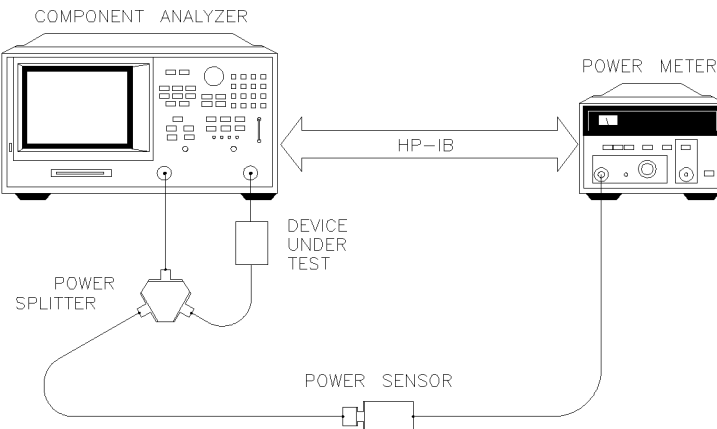

Figure 13-8. Continuous Correction Mode for Power Meter Calibration
You can set the analyzer to update the correction table at each sweep (as in a leveling application), using the continuous sample mode. When the analyzer is in this mode, it continuously checks power at every point in each sweep. You must keep the power meter connected as shown in Figure 13-8. This mode is also known as power meter leveling, and the speed is limited by the power meter.
- 1** Connect a power splitter or directional coupler to the RF power that you are applying to your test device, as shown in **Figure 13-8**.